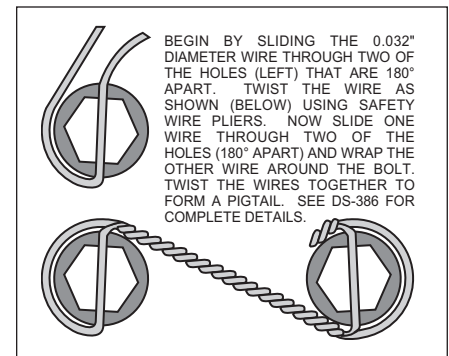

Figure 3. Safety Wire Diagram
- With the larger I.D. side of the rotor (3) facing away from the hat (4), bolt rotor (3) to hat (4) through the backside of the rotor using washers (5) and bolts (6). Torque bolts (6) to 85 in-lb. Safety wire bolts (6) using standard 0.032 inch diameter stainless steel safety wire as shown in Figure 3. Please refer to Wilwood's data sheet DS-386 (available at [www.wilwood.com/pdf/ds386.pdf](http://www.wilwood.com/pdf/ds386.pdf)) for complete safety wire installation instructions. Slide the rotor/hat assembly onto the spindle. Install a couple of lug nuts (hand tighten) to keep the rotor/hat assembly in place while continuing with the installation.
- NOTE:** Please reference the caution statement at the beginning of the assembly instructions. With the bleed screws pointing up, mount the caliper (7) onto the caliper bracket (1) with the self locking hex nut (8), flat washer (9), through the top of the caliper and mounting stud (10) with flat washer (11) positioned between caliper (7) and caliper mounting bracket (1). Finger tighten. View the rotor (3) through the top opening of the caliper (7). The rotor (3) should be aligned in the center of the caliper (7). If not, adjust the caliper (7) by using 0.035 inch thick shims (2) placed between the spindle assembly and the caliper mounting bracket (1). Finger tighten and recheck alignment. Lubricate caliper mounting studs and nuts with lightweight oil, reinstall the caliper, torque the caliper nuts to 30-35 ft-lb.
- Remove the bridge bolt from the caliper (7) and install the disc brake pads (12). Reinstall the caliper bridge bolt.